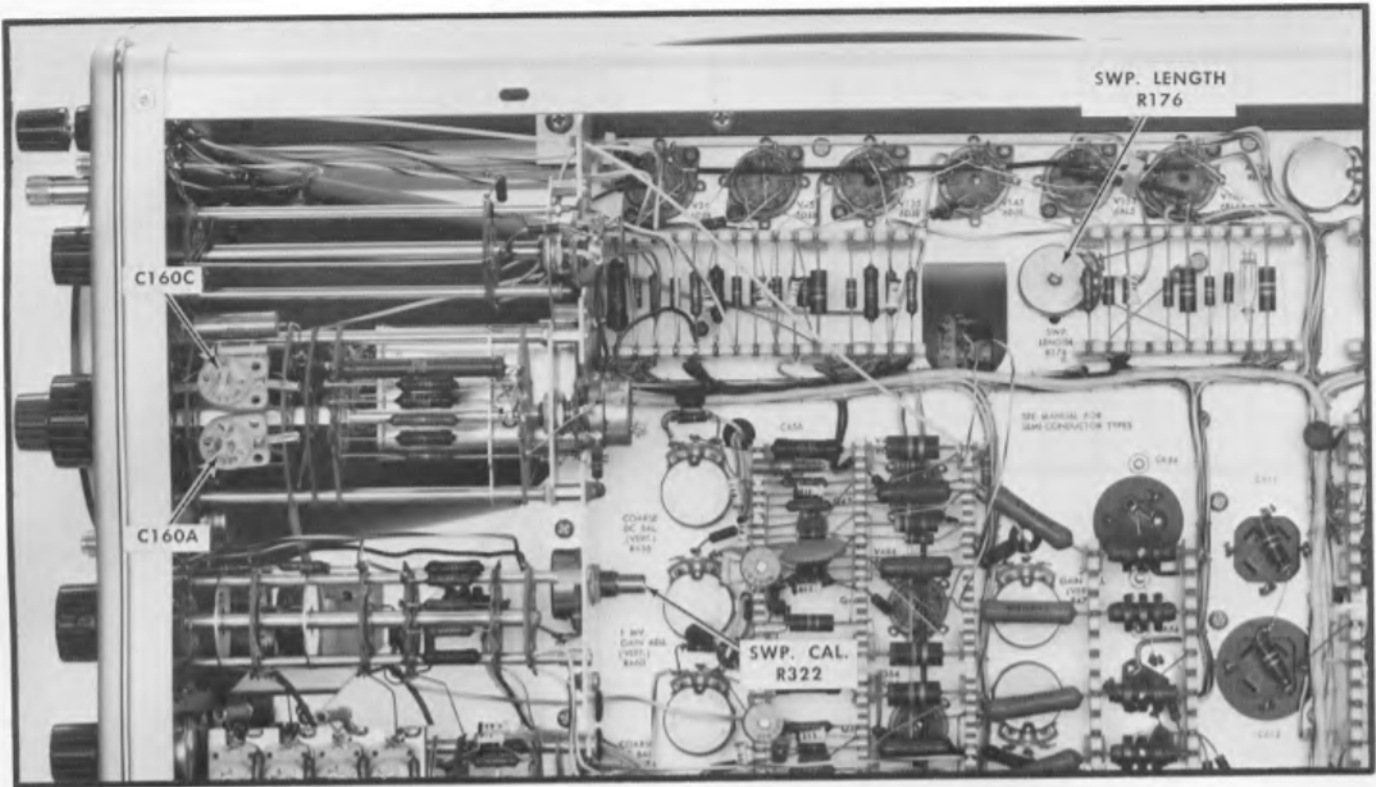

Fig. 6-31. Sweep timing adjustment locations.
- f. Adjust SWP. CAL R322 for 1 marker/cm. (The location of R322 is shown in Fig. 6-31.)